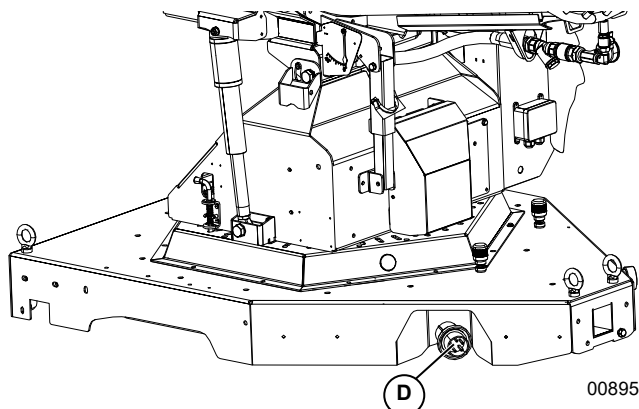

Figure 2-9. Electrical Connection
4. See **Figure 2-9**. Connect power cable to socket (D)